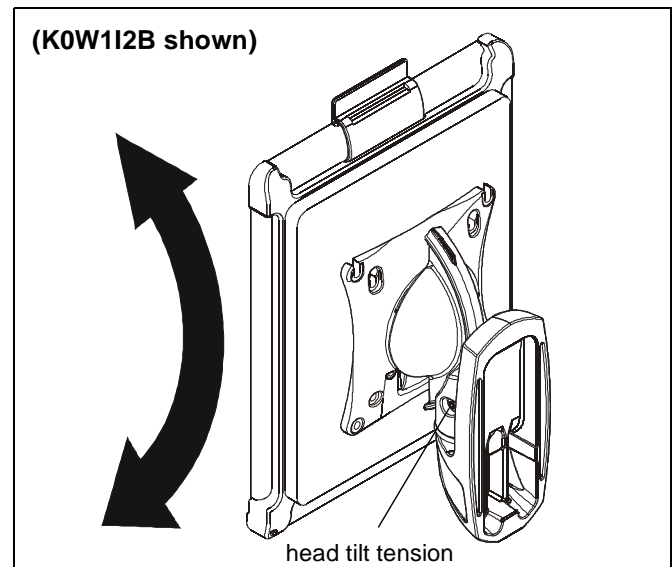

Figure 2
1. Adjust head tilt to desired tilt position. (See Figure 2)
2. Adjust head tilt tension screw to change the adjustment tension. (See Figure 2)